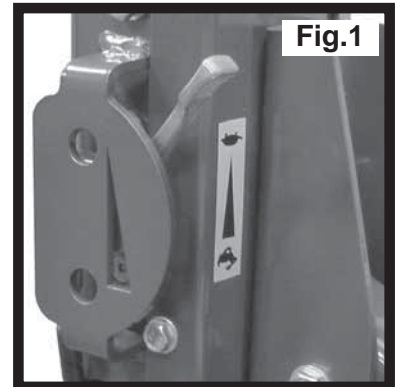

Fig.1
1. To stop the engine, set the throttle control to idle (See Fig. 1), then press and hold the red stop button for 5 seconds until the engine stops (See Fig. 2).
1. To stop the engine, set the throttle control to idle (See Fig. 1), then press and hold the red stop button until the engine stops (See Fig. 2).